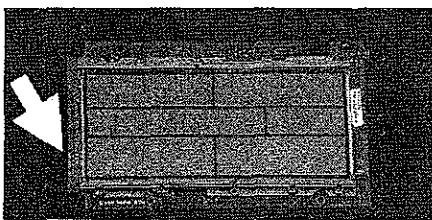

Figure 33
4. Place the display PCB/LCD assembly so that the LCD is facing upwards. Ensure that the two solder connections "ELP1" and "ELP2" on the display PCB are positioned to your lower left (see Figure 33).